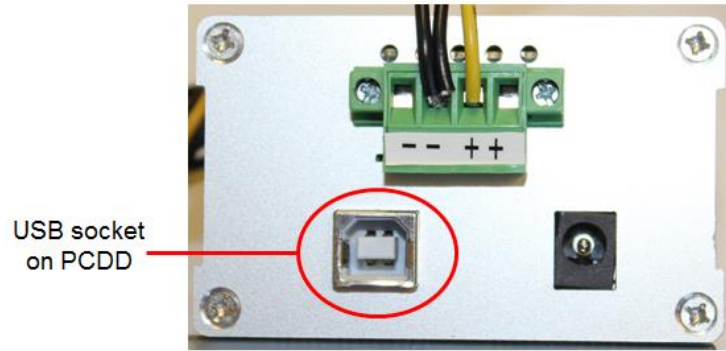

Figure 7: PCDD USB cable socket
7. Connect the other USB cable to the PCDD socket shown in Figure 7.